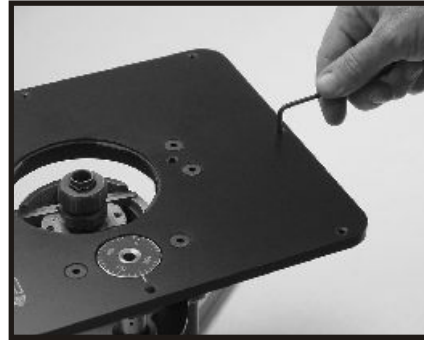

FIG. 3
1. With the Rout-R-Lift FX in the table top opening, install (8) set screws into the holes around the lift perimeter. Adjust (Fig. 3) the four corners first to align the lift surface to the table surface so that both are flush. Adjust the remaining set screws on the sides to provide added support.